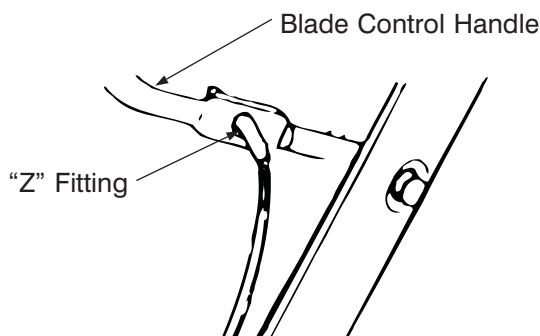

Figure 4
- Move the blade control handle away from the upper handle. Hook the "Z" end of the brake cable into the hole in the blade control handle from the outside to the inside as shown in Figure 4.